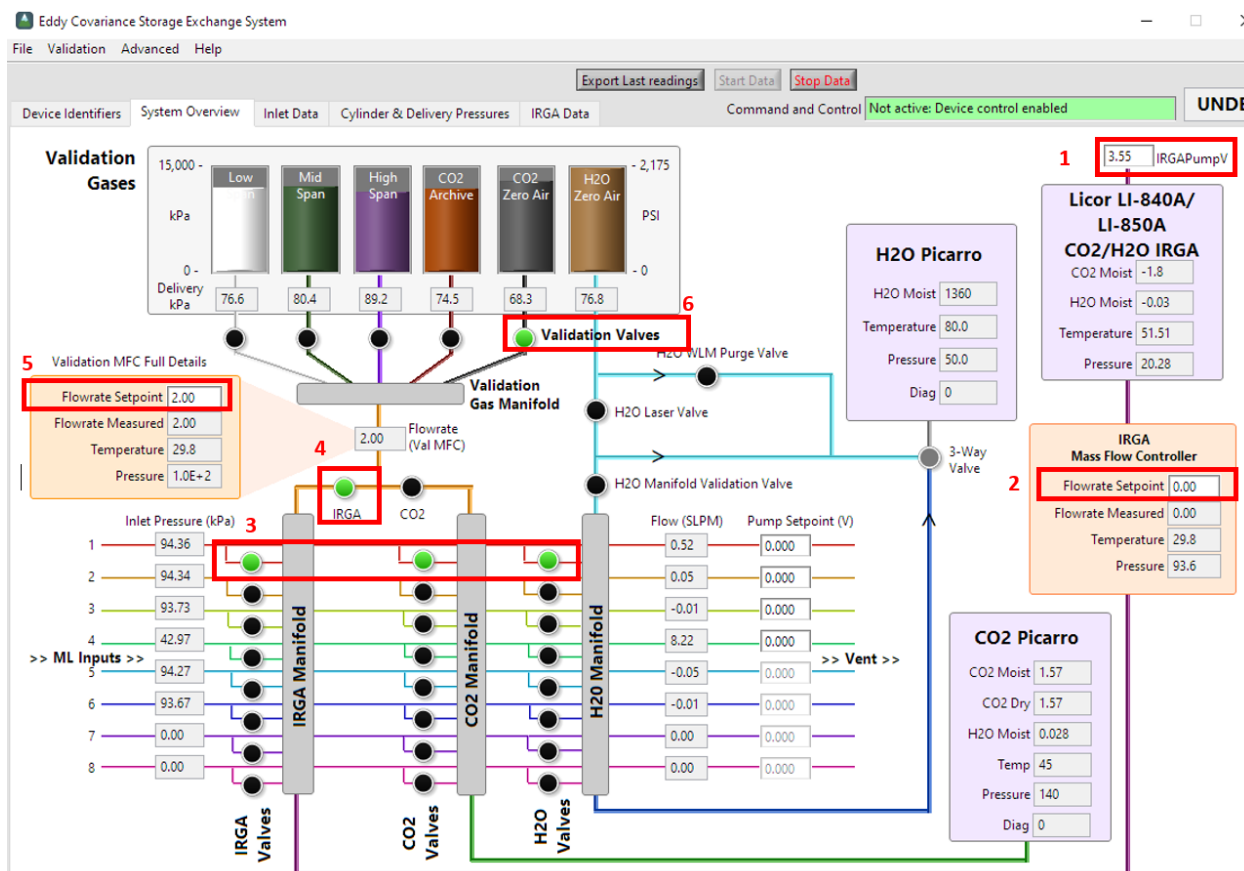

Figure 15. ECSE IS Control and Monitoring Suite Software.
2. For the ECSE system (**Figure 15** on the next page):